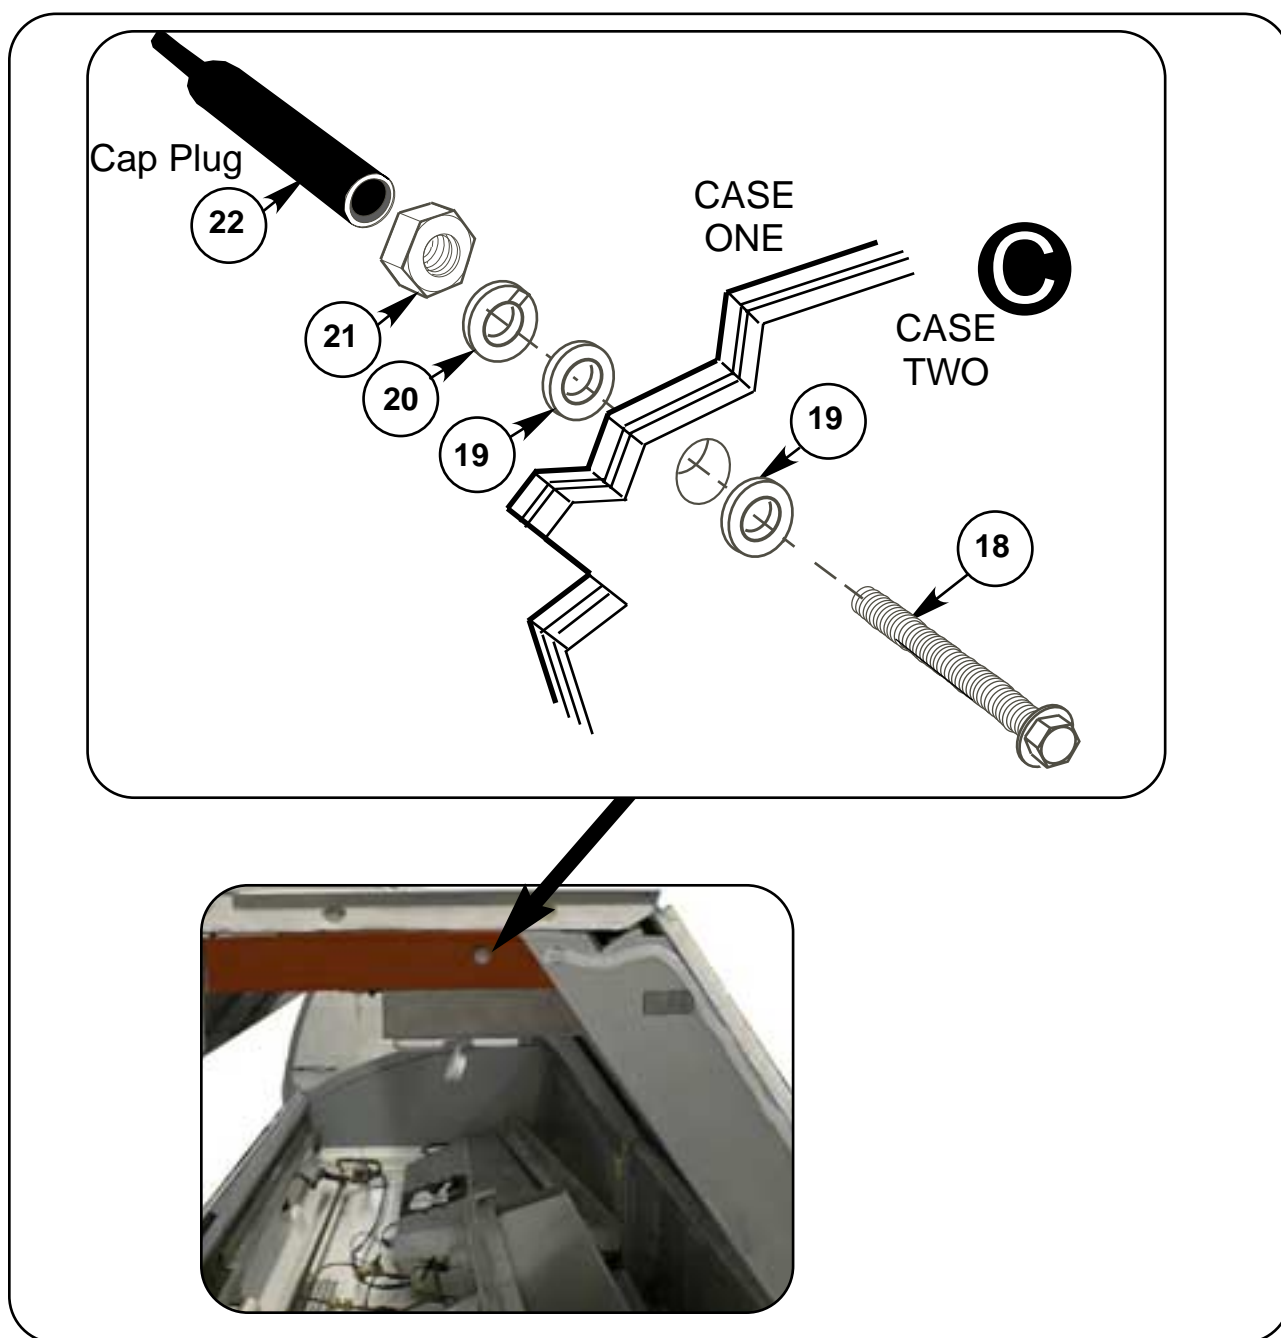

Figure 9. Fastening Top Fronts of Cases Together (Sequence C)
- 15** Fasten the top rear of the cases together using **Cap Screws (Item – 18), Flat Washers (Item – 19), Lock Washers (Item – 20) Hex Nut (Item – 21), and Cap Plug (Item – 22).** See Figure 9.